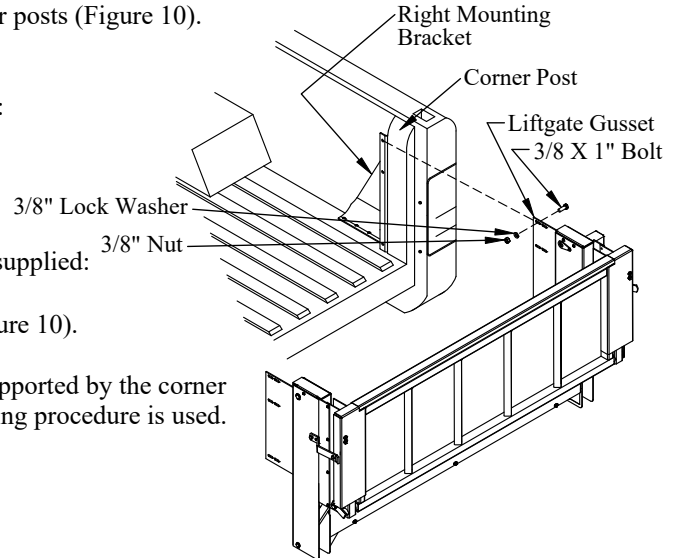

Figure 10: Mounting bracket and liftgate.
1. **Position** the mounting brackets into the truck bed in front of the corner posts (Figure 10).
- (3) 3/8"x1" hex head bolts on the bracket-side (Figure 10).
- (3) 3/8" lock washers, and (3) 3/8" nuts on the gusset-side (Figure 10).